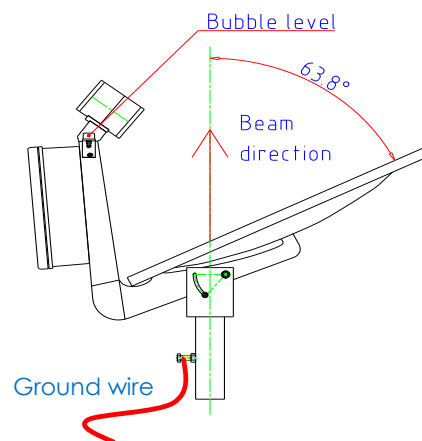

Figure 8: Vertical alignment of the radar beam
1. Install the control and evaluation computer (PC) according to the documents of the manufacturer.
2. Plug the tube socket (10) of the RADAR antenna over the attachment pole and clamp it with the M10 fixing bolt.
3. Check the vertical alignment of the antenna with the built in bubble level (see Figure 8)